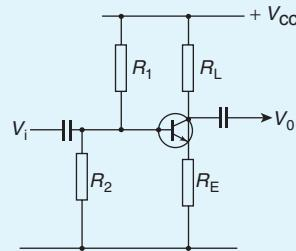

Figure 12.29
- In questions 11 to 15, which refer to the amplifier shown in Fig. 12.29, select the correct answer from those given